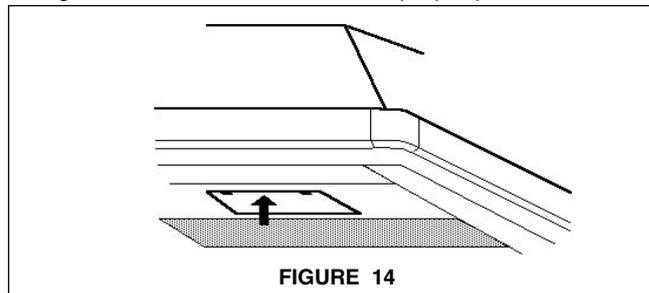

FIGURE 14
10. Turn the power supply on. Turn on blower and light. The rangehood controls are located in a gray panel on the canopy's underside. To open the panel, press up on the front edge and release as indicated in **FIGURE 14**. If the rangehood does not operate, check that the circuit breaker is not tripped or the house fuse blown. If the unit still does not operate, disconnect the power supply and check that the wiring connections have been made properly.